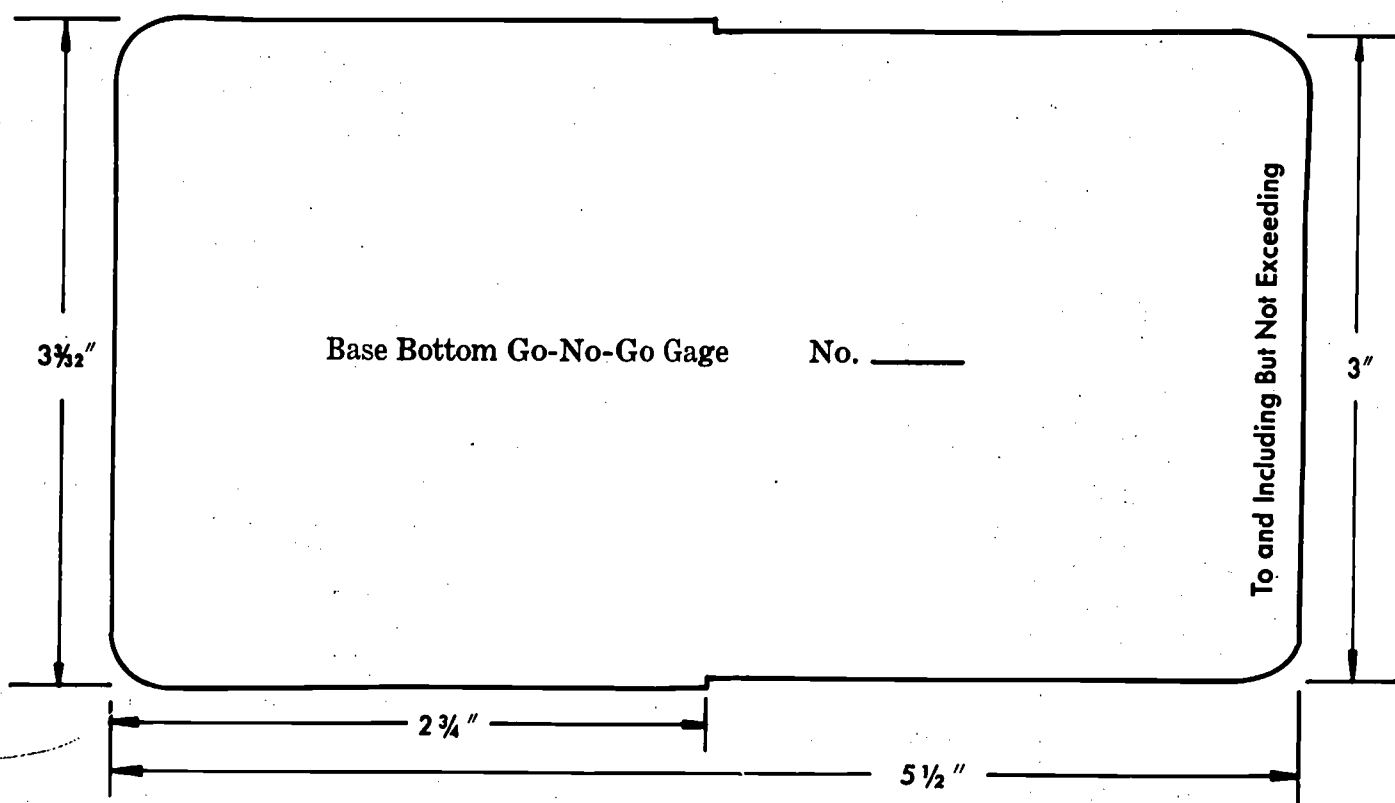

Fig. 154-3. Base Bottom Go-No-Go Gage (Full Scale)
- 1 go-no-go gage to inspect formed base bottom, Fig. 154-3